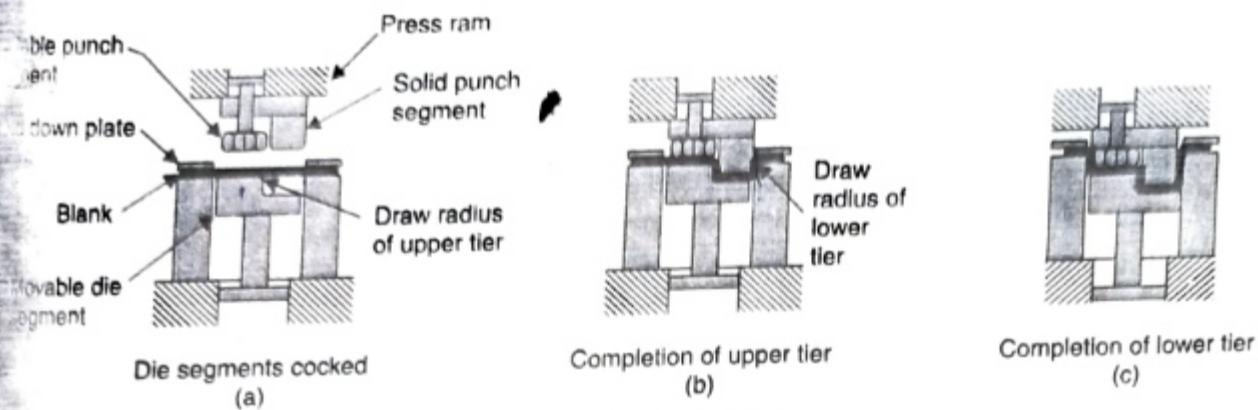

Fig. 3.50. Multi-action dies.
- In this setup (Fig. 3.50) the entire sheet is held between tooling plates at all times. Unsupported metal does not flow with the punch as it does in conventional tooling. The multiple, matched dies are made so that segments can be timed to move for an optimum forming sequence. The tools are mounted in a conventional hydraulic press, which is programmed to activate independent, external hydraulic circuits.